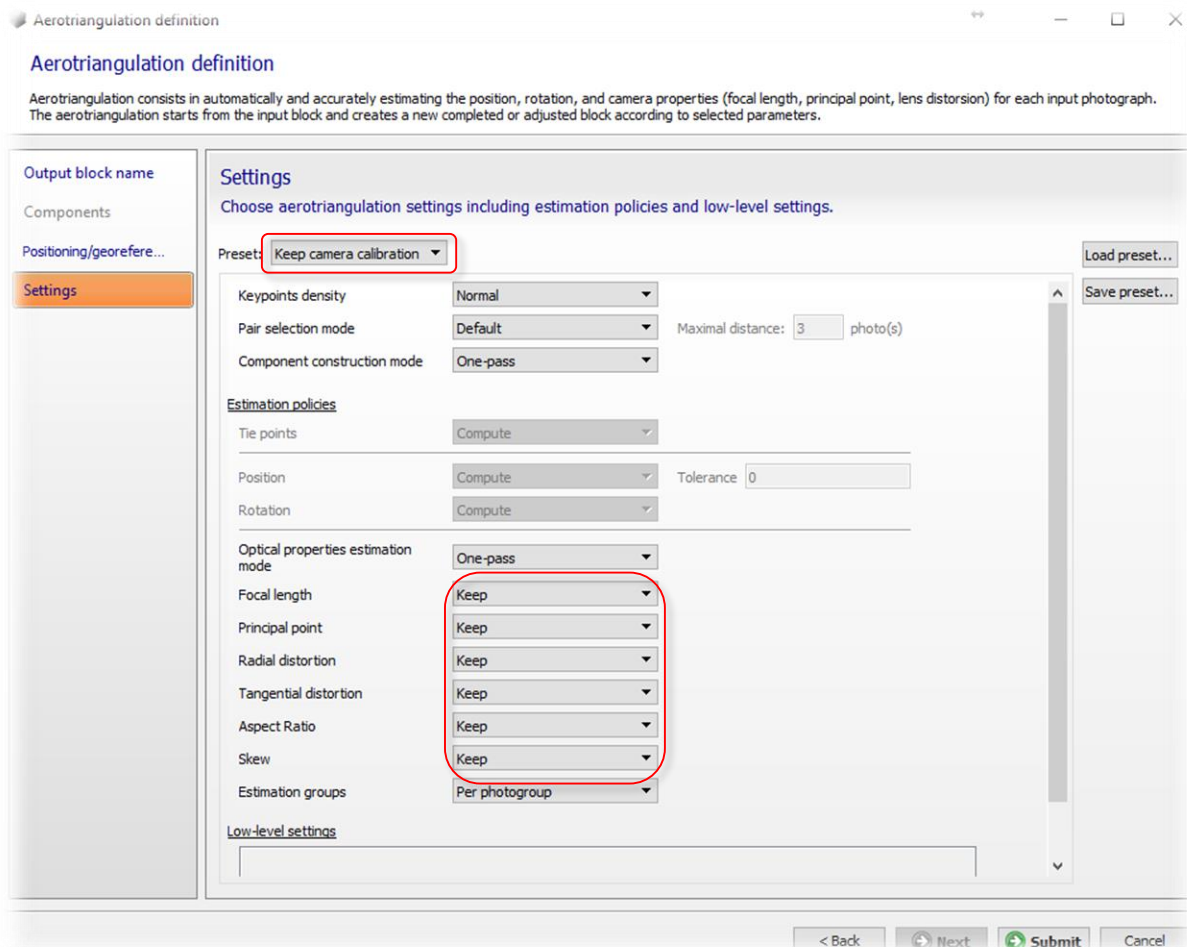

Figure 15: Keeping the imported optical properties during the AT step
- You can now re-use this camera calibration in your aerial project: right click on the photogroup -> “get camera model from the database” to import your adjusted camera model and submit the AT. Do not forget to prevent the software from adjusting those parameters again (Figure 15).